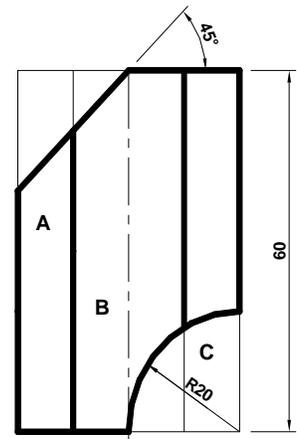

Figure-2
- (b) Draw the development of the lateral surfaces of a given Hexagonal prism having sides 20mm as shown in Figure-2 **07**